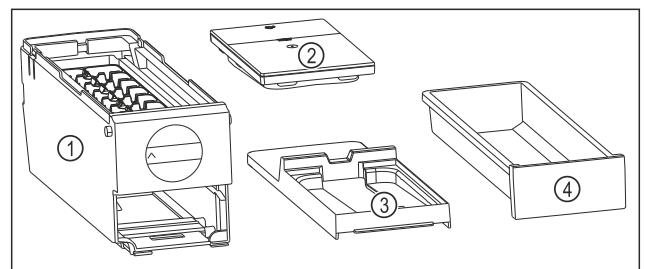

Fig. 79 Components of the EasyTwist-Ice
- ▶ EasyTwist-Ice is dismantled into four parts. (see Fig. 79)
- ▶ Only dismantle the EasyTwist-Ice into the components shown. (see Fig. 79)
- ▶ Clean the EasyTwist-Ice body Fig. 79 (1) as a whole.